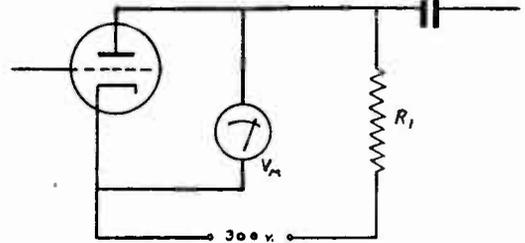

Fig. 3. A practical voltage-measuring problem. The meter reading depends on the ohms-per-volt sensitivity of the meter.
As a practical example of a typical radio circuit, consider Fig. 3. Suppose that resistor  $R_1$  has a value of 50,000 ohms and the tube plate-to-cathode resistance is 25,000 ohms. The total resistance is then 75,000 ohms so 4 ma. flows from the 300-volt source ( $300 \div 75,000 = .004$  ampere).
**Case 1.** If the voltmeter in Fig. 3 has a 100-volt range which requires 10 milliamperes for full-scale deflection, its resistance  $R_M = E \div I$ , or 10,000 ohms. This resistance is in parallel with the tube resistance  $R_p$  of 25,000 ohms, as shown
**Case 3.** A 100-volt meter requiring only .1 milli-ampere has a resistance of 1,000,000 ohms. Such a meter will indicate about 98 volts if placed in the circuit of Fig. 3. The error now is only about